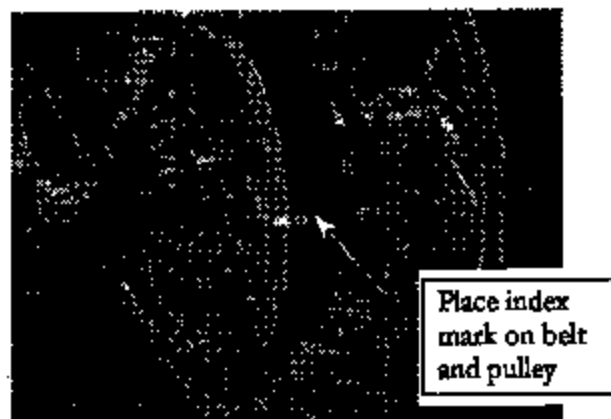

Figure 1
1. Using "white-out", or a light color grease pencil or paint marker, make adjacent index marks on the rear drive pulley flange outer edge and the outer surface of the drive belt. See Figure 1.